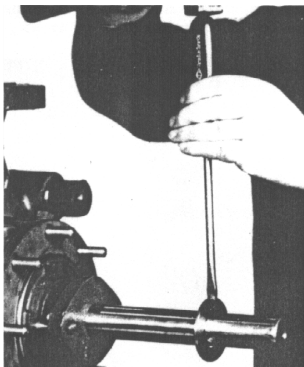

Fig. 7
- Extract the Centrifuge Ring. To this end, insert the tip of a screwdriver in the slot of the ring, causing it to increase its internal diameter so that it is easily extracted from the shaft. (See fig. 7)